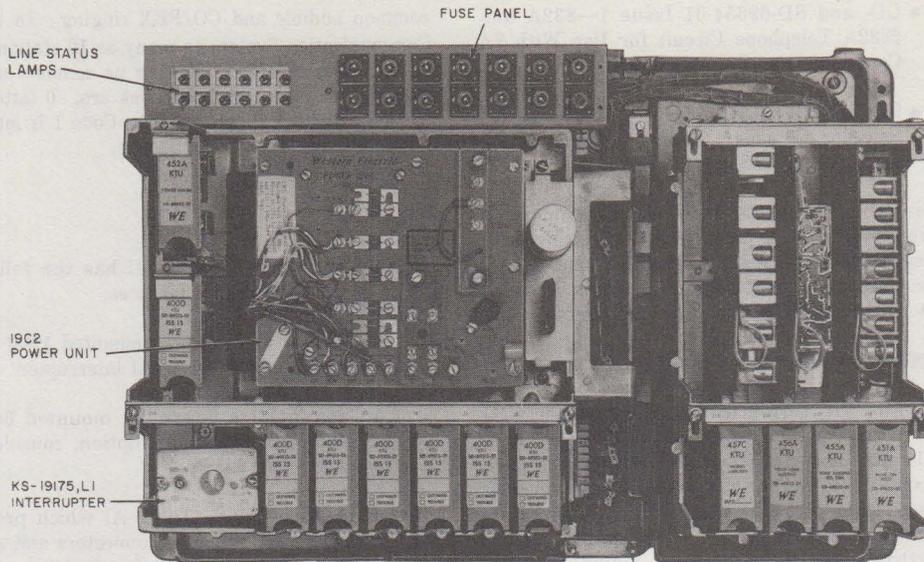

Fig. 1—570A KSU (Cover Removed)
2.03 The 570A KSU (Fig. 1) has the following mechanical design features: